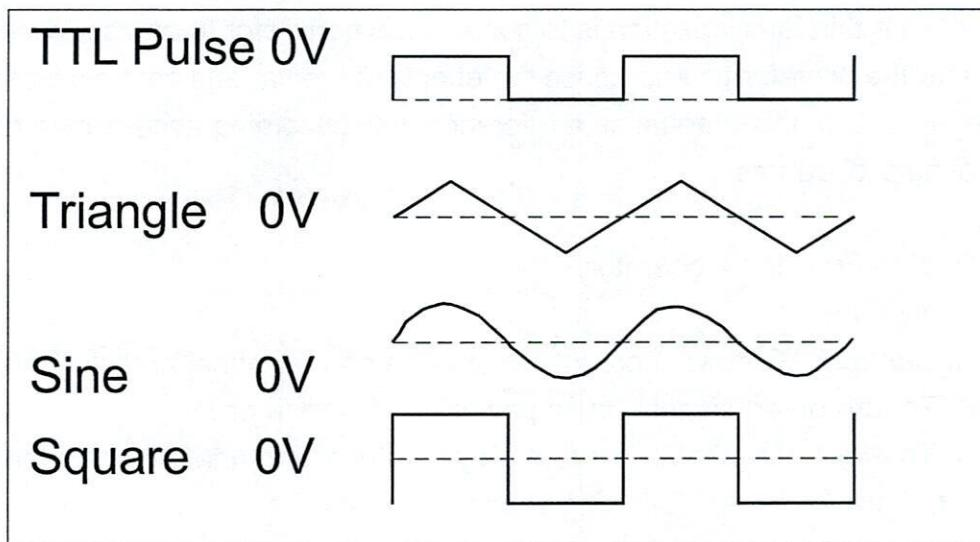

FIG. 3 OUTPUT WAVEFORMS AND PHASE RELATIONSHIPS
- F. Select sine, square, or triangle wave output by pressing the corresponding FUNCTION button. FIG 3. illustrates the output waveforms and their phase